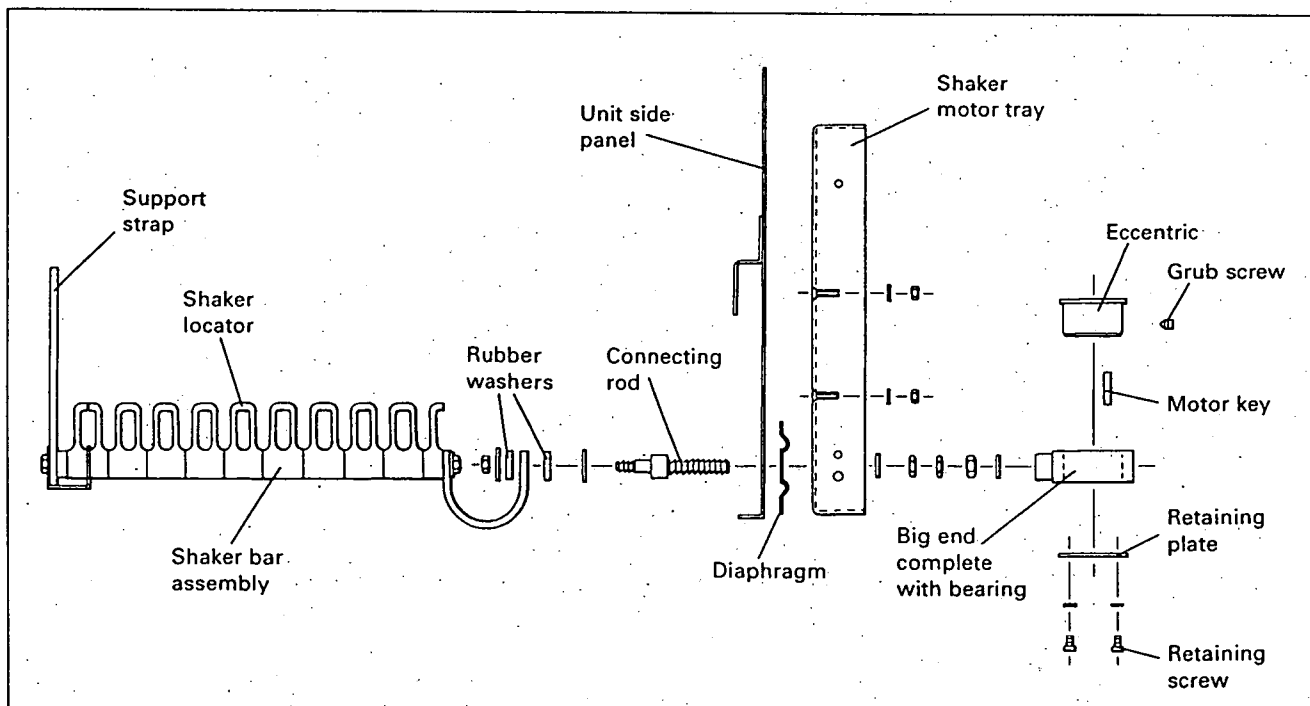

Fig. 29 Exploded diagram of standard UMA shaker assembly with motor and cover removed
- Shaker mechanism (see Fig. 29) with particular attention to: